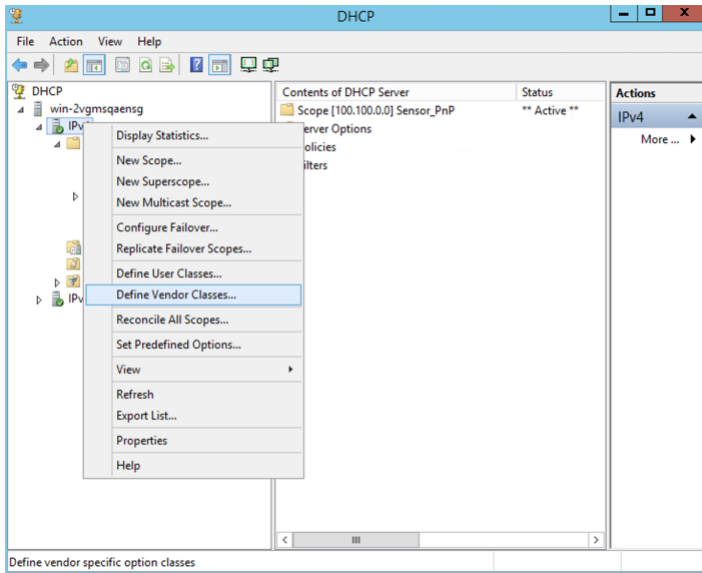

Figure 23.
2. Open your Window's DHCP server, right click on **IPv4**, then click on **Define Vendor Classes (Figure 23).**